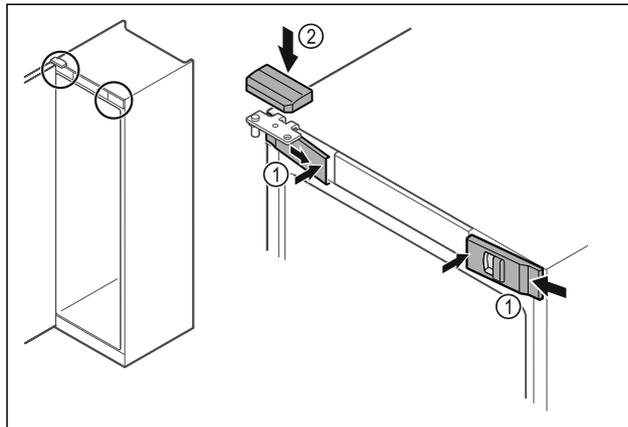

Fig. 53
- ▶ Hook in the front covers Fig. 53 (1) on the side and snap them into place on the inside.
- ▶ Snap on the top cover Fig. 53 (2) from above.